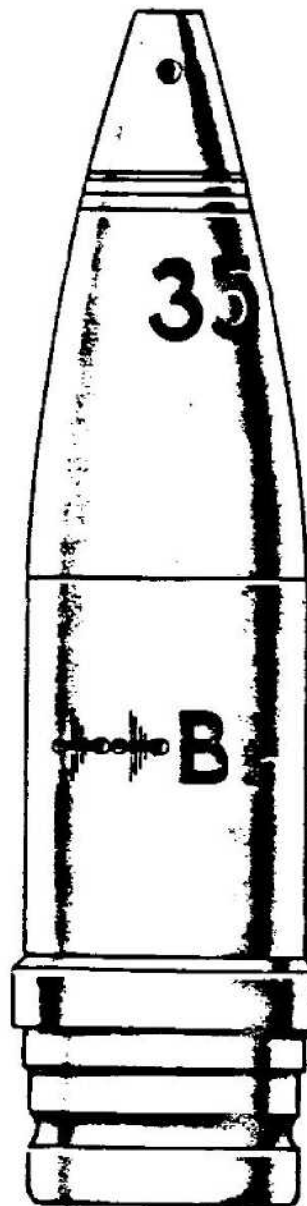

Figure 369—Incendiary with H. E. Projectile, 50-mm, 5-cm Br. Sprgr. Patr. 41 L'Spur
**GERMAN NOMENCLATURE** 5-cm Br. Sprgr. Patr. 41 L's pur. (See fig. 369.)